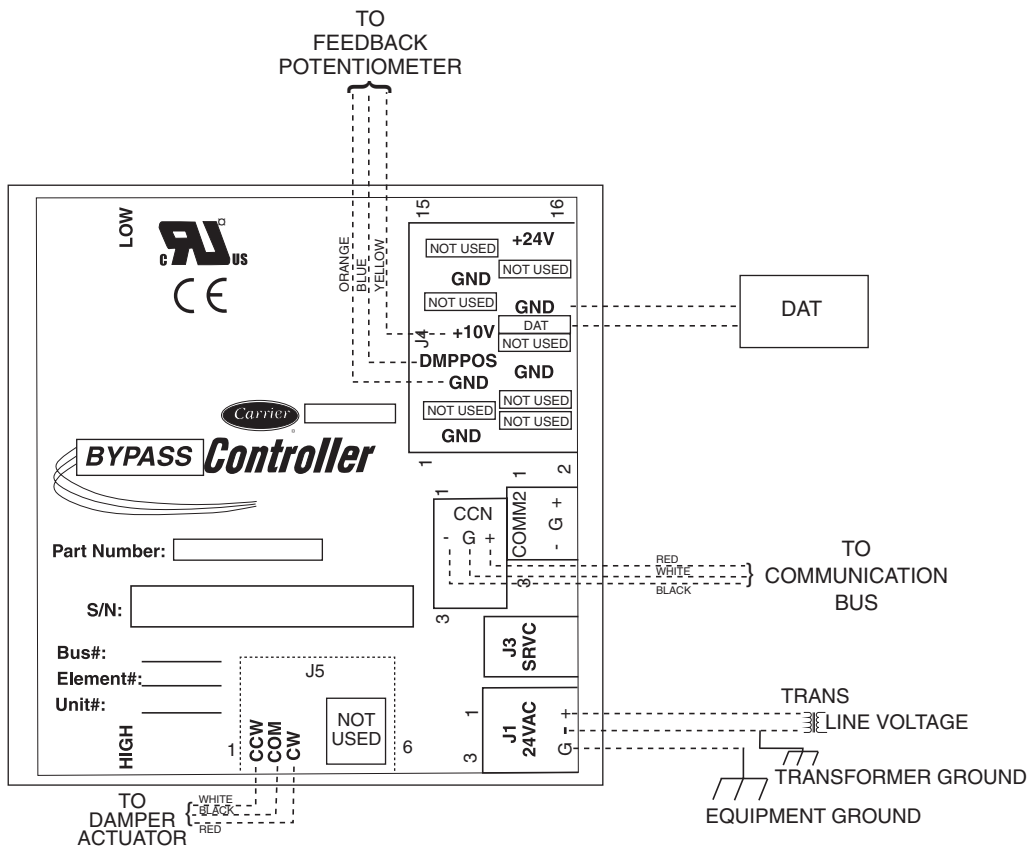

**Fig. 4 — Bypass Controller Wiring**
2. Connect 24 vac from the transformer as shown in the applicable wiring diagram (Fig. 4). Be sure to observe polarity when connecting the transformer power. The grounded terminal must be connected to the transformer ground terminal as shown.
3. Connect the sensor leads to the bypass controller's terminal board at the terminals labeled DAT (J4-10) and GND (J4-12). See Fig. 4 for wiring. If extending cable length beyond 8 ft, use plenum rated, 20 AWG (American Wire Gage), twisted pair wire. Sensor wiring does not have polarity. Either lead can be wired to either terminal.